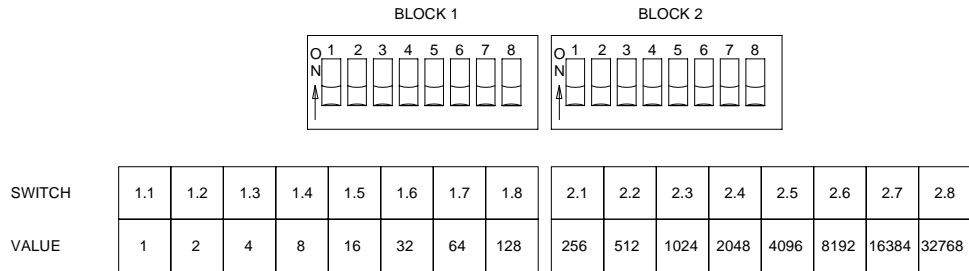

Figure 3.6: Address Switch Chart
- Referencing Figure 3.6: Address Switch Chart use the following formula.